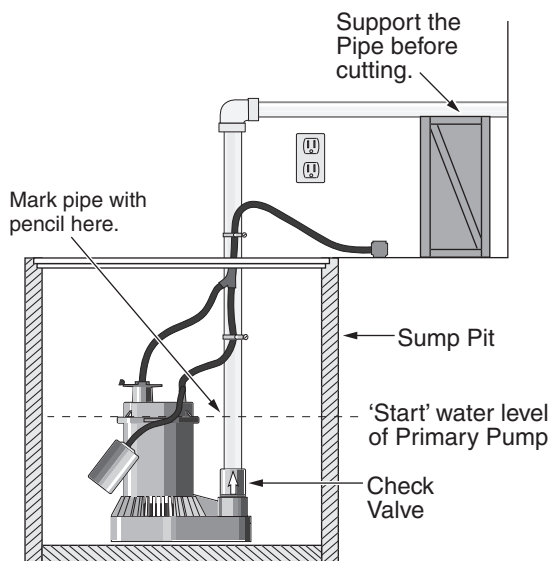

Figure 1: Mark pipe at 'start' water level
1. Locate the high water level in your sump pit (that is, the water level at which the existing (primary) sump pump starts - see Figure 1). Mark this point on the discharge pipe with a pencil or marker.